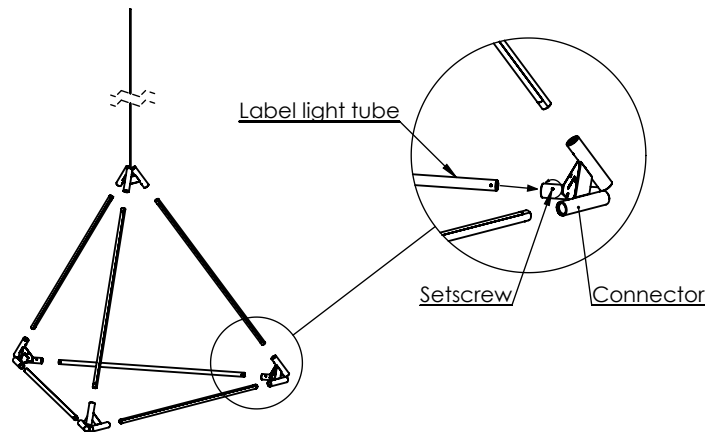

FIGURE 3
NOTE: Figure 3 shows TETAHEDRON as an example. Please install the correct number of light tubes according to your fixture's configuration. The instructions below are same for all SOLIDS.
2. Insert Light tubes into the connectors as shown in FIGURE 3.